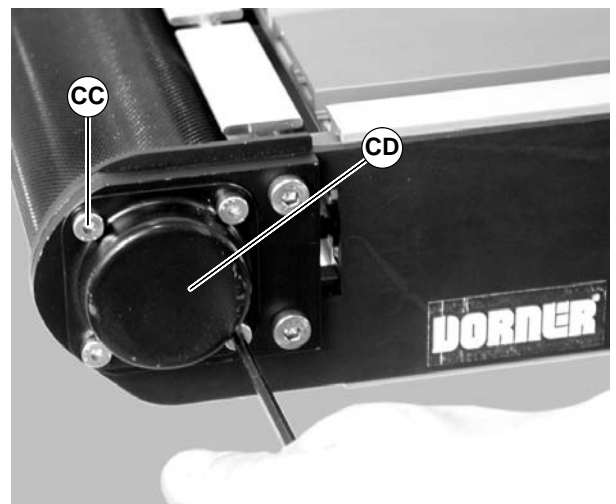

Figure 67
3. Remove four shaft cover screws (CC of Figure 67). Remove the shaft cover (CD).